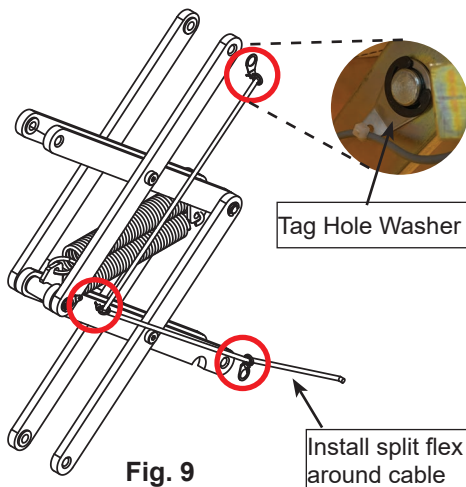

Fig. 9
5. Remove the cable ties securing the hook sensor wire to the scissor assembly, (Fig. 9). Then install the corrugated split flex conduit on the sensor wire and secure it to the scissor assembly tag hole washers, using the included cable ties.